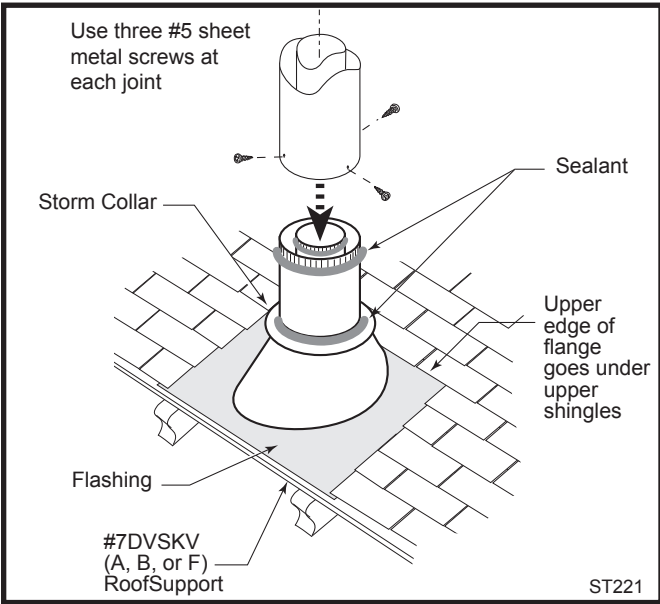

Fig. 32 Roof support and flashing.
7. Install the appropriate roof support and flashing, making certain that the upper flange of the flashing base is below the shingles. (Fig. 32)
9. Install the storm collar and seal around the joints. (Fig. 32)